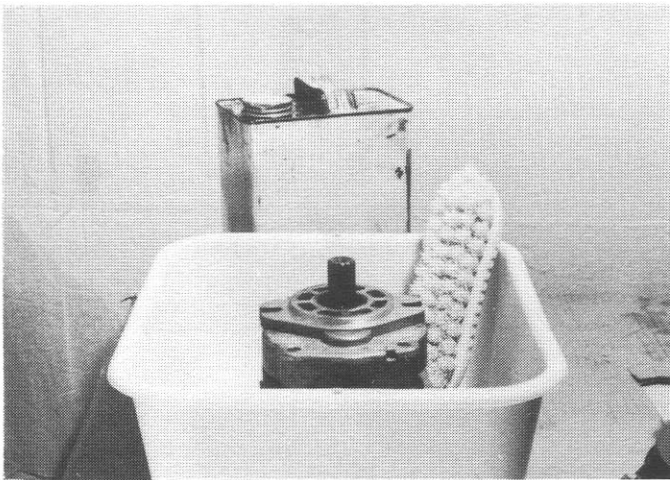

Fig. 1
1. Using solvent and brush, clean outside of pump thoroughly. (Fig. 1)